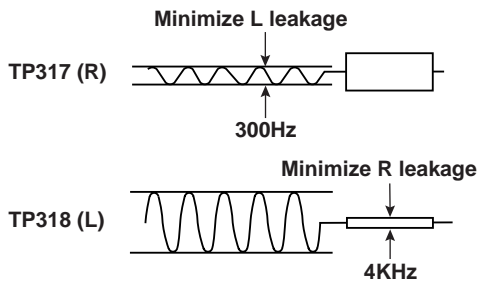

Figure 2. Separation Adjustments
13. Adjust the + or – key for minimum low frequencies at TP317. See Figure 2.
16. Adjust the + or – key for minimum high frequencies at TP318. See Figure 2.